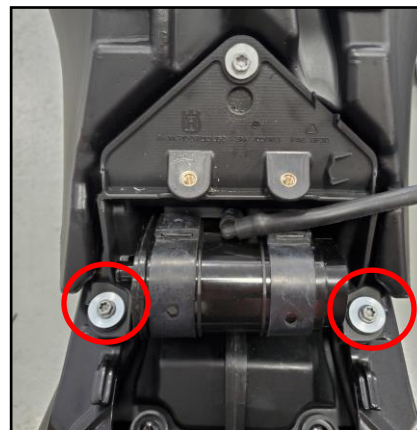

Fig. 15
18. Install the charcoal canister to mounting the bracket and connect the fuel cap vent lines (Figure 15).